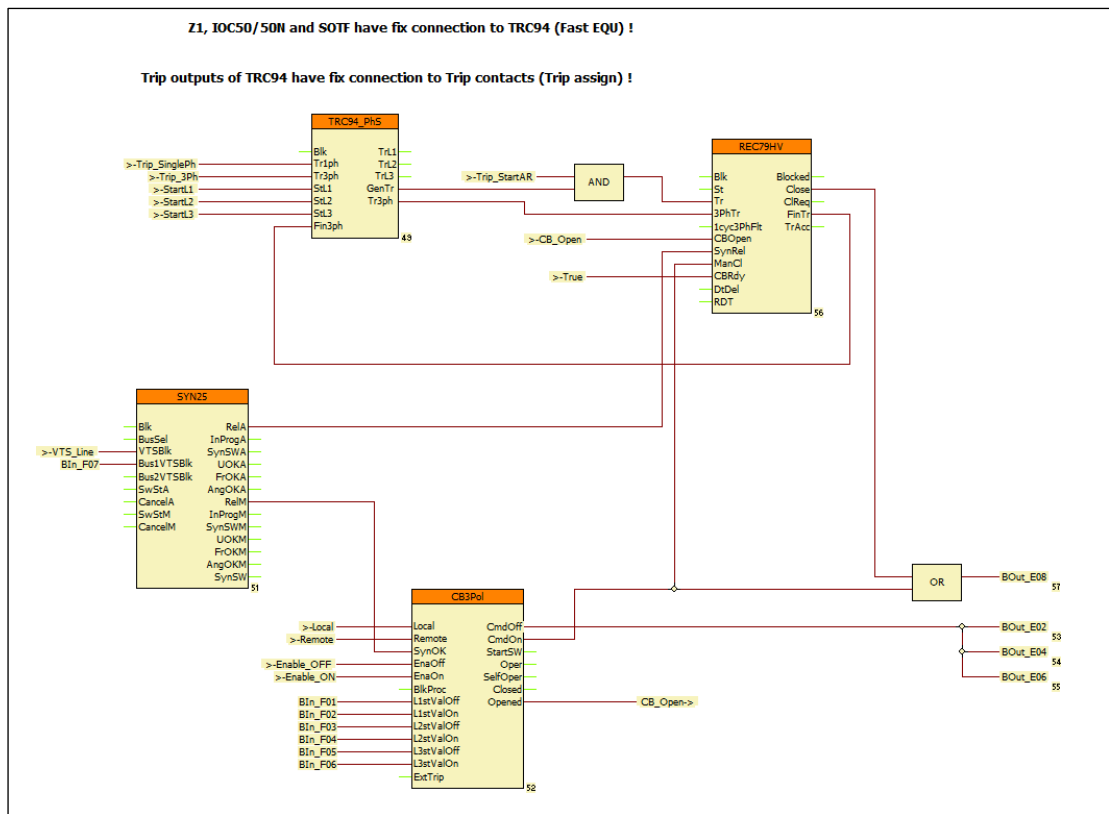

Figure 5-4 Example: closing the circuit breaker with synchro-check
Figure 5-4 shows an example for the application of “SYN25” synchro-check functionblock. In this Figure it is supposed that the fast protection functions operate according to the factory configuration and they control the TRIP contacts applying two steps of the preparation and command generation phases. This part of the program is not visible in “Master” level. (The description of the fast operating protection functions are listed in the configuration description of the devices.)
According to *Figure 5-4*, the local command issued via LCD of the device or the remote command received from the remote SCADA system is processed by the „CB3pol” functionblock (Output „CmdOff”). This control is programmed in the factory to “BOut\_xx” variables. The user can perform any modification in the graphic programming.
In *Figure 5-4* the close command is connected directly to a dedicated output. (This is usually the fourth contact of the TRIP hardware module.)
*Figure 5-4* includes the application of the „REC79\_HV” automatic reclosing function. The start signal „Trip\_StartAR” can be programmed by the user. The automatic reclosing function is started only if the preceding trip command was performed by the circuit breaker, i.e. for example that the function is not disabled. The AND gate on this Figure performs this checking.
The evaluation of the status signals indicating the open state of the circuit breaker poles in OR gate is needed for the operation of the automatic reclosing function. According to the scheme of *Figure 5-4* the open state is indicated by at least one pole open state of the circuit breaker. (For simplicity, this Figure shows a realization without checking the FALSE signal of the closed states.)
*Figure 5-4* supposes that the CB ready signal is not connected to the device; accordingly the steady TRUE state signal is connected to the „CBRdy” input of the „REC79\_HV” automatic reclosing function. If the real signal is available, the signal must be connected similarly.
An extension to the example in *Figure 5-4* is the following: If there is no continuous synchron state because the frequency at one side of the circuit breaker is different to that of the other side, then the voltage vector of one side rotates continuously as compared to the other one. In this case a synchronous switching is attempted to restore the normal operation of the network.